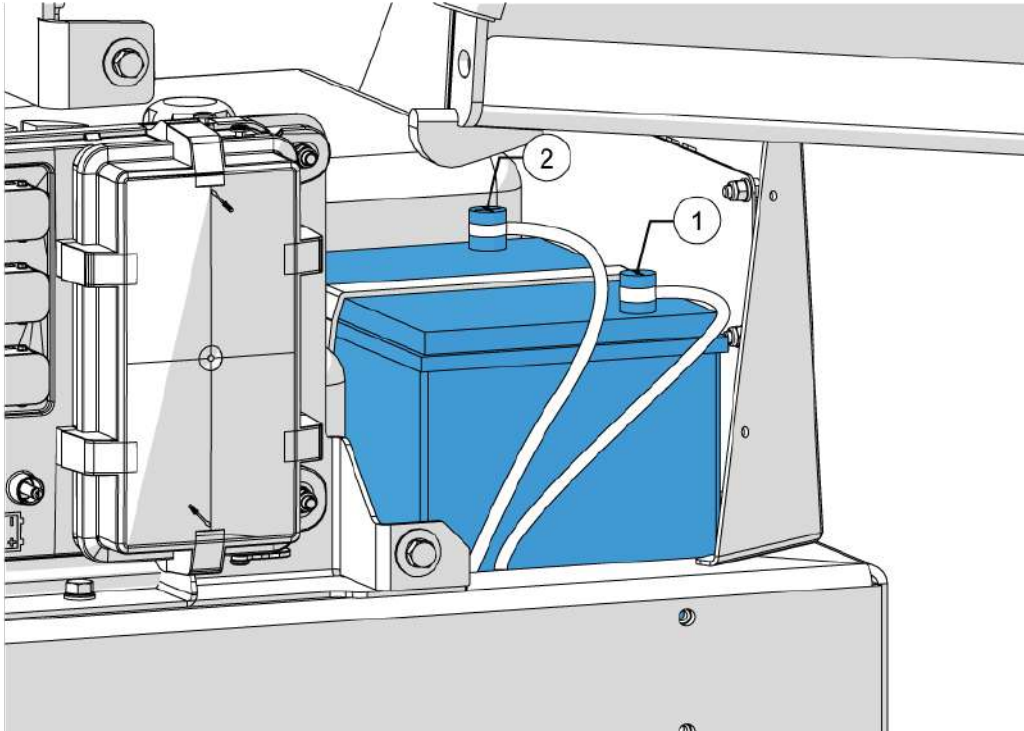

Figure 79 - Battery terminals
5. Remove the negative lead at the battery (1, Figure 79), then the positive lead (2, Figure 79).
11. Connect the positive lead to the battery (2, Figure 79), then the negative lead (1, Figure 79).